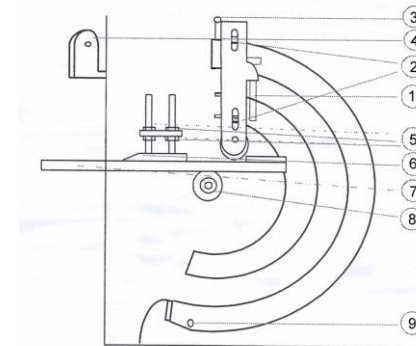

Figure 1
- Step 5.** Insert the limit pin (NO.9) into a suitable hole on the dial (NO.10) according to the required bending angle of steel bar, then start the engine and step on the step (NO.4). As the result, the roller arm will turn back to the beginning position at once automatically. (See Figure 1)
- Step 1.** Select one suitable support roller (Fig. 1, NO. 8) according to the diameter of the steel bar to be bent, and install it on the central shaft (the diameter of the support roller should be 4 times larger than the diameter of steel bar to be bent). Please select the support roller according to table 1. Unsuitable support roller is not allowed to be used.
- Step 2.** Adjust the location of the block (NO. 6) by adjusting (and locking) the nuts (NO. 5), and make the steel bar (NO.7), support roller and block contact with each other and keep stable. (see Fig. 1)
- Step 3.** Make the roller arm in beginning position as fig. 1 and loosen the nut (NO. 1 & 2), and adjust the gap Δ between the roller and steel bar to be bent ($\Delta \approx \frac{1}{4}$ diameter of the steel bar) then lock the bolts, (NO.1 & 2) again. Narrower gap is not allowed (especially when the steel bar with max. diameter is bent) (see fig.1)
- Check the connection reliability of the operative system and check if the nuts are loose. When new machine or one which is in store for long time is used; please check the function of operative system: Step on the step (Fig 1, NO.4) and see if the clutch is in gear (if the step don't move, please rotate the diesel engine with the handle and make the big gear run slightly), then check if the roller arm runs respondent when rotate the diesel engine with handle. At last, move the handle of dial (Fig. 1. NO. 3) Clockwise for about 50mm and see if the clutch is separated.